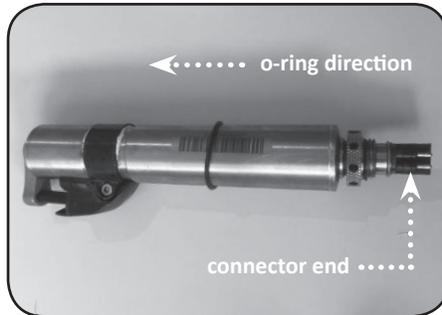

Figure 1 - Roll on the new o-ring starting at the connector end
- 1** Remove your central wiper from the sonde. Install one of the included o-rings on the wiper, starting from the connector end. Roll the o-ring so the majority of it rests in the groove directly below the black, plastic wiper guard (see figures 1 & 2).